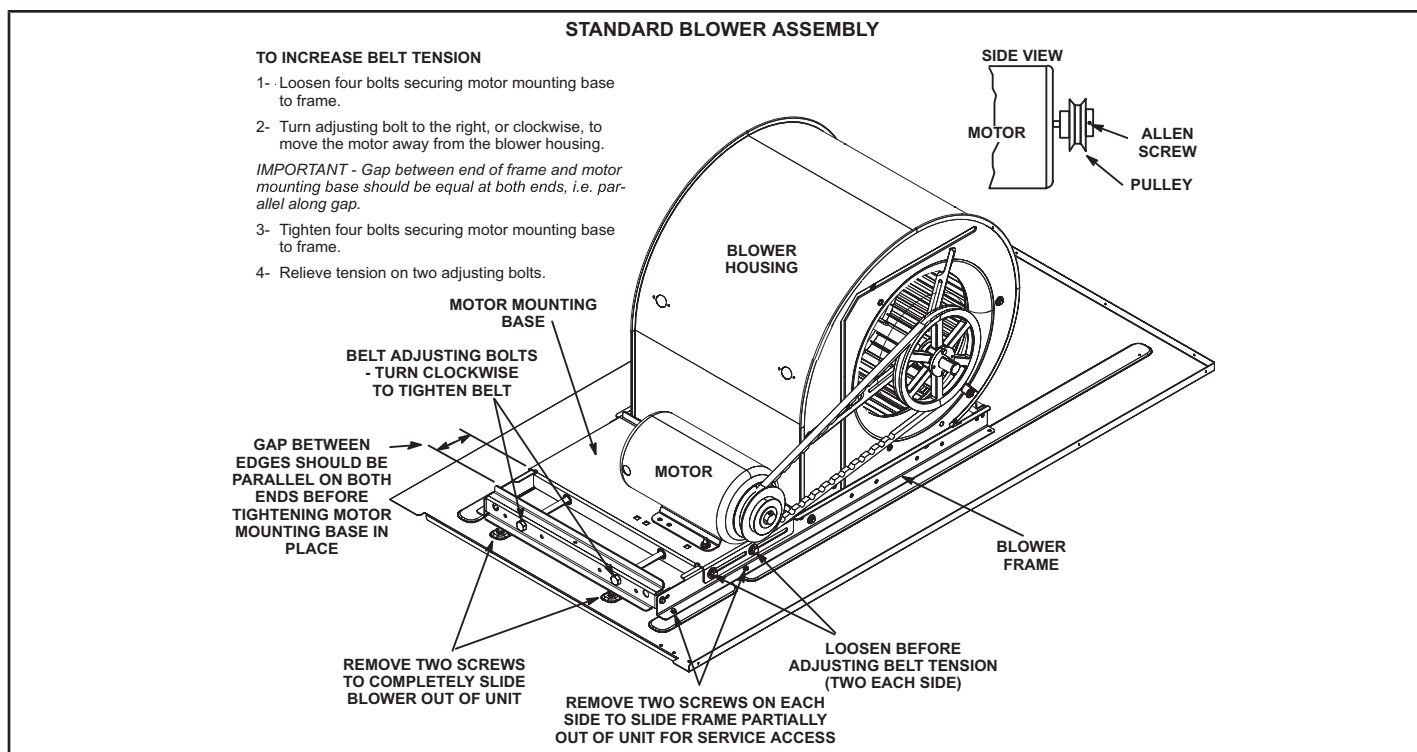

FIGURE 13
The blower assembly is secured to a sliding frame which allows the blower motor to be pulled out of the unit. See FIGURE 13.
- 4 - The blower RPM can be adjusted at the motor pulley. Loosen Allen screw and turn adjustable pulley clockwise to increase CFM. Turn counterclockwise to decrease CFM. See FIGURE 13. Do not exceed minimum and maximum number of pulley turns as shown in TABLE 5.
- 1 - Loosen four bolts securing motor base to mounting frame. See FIGURE 13.